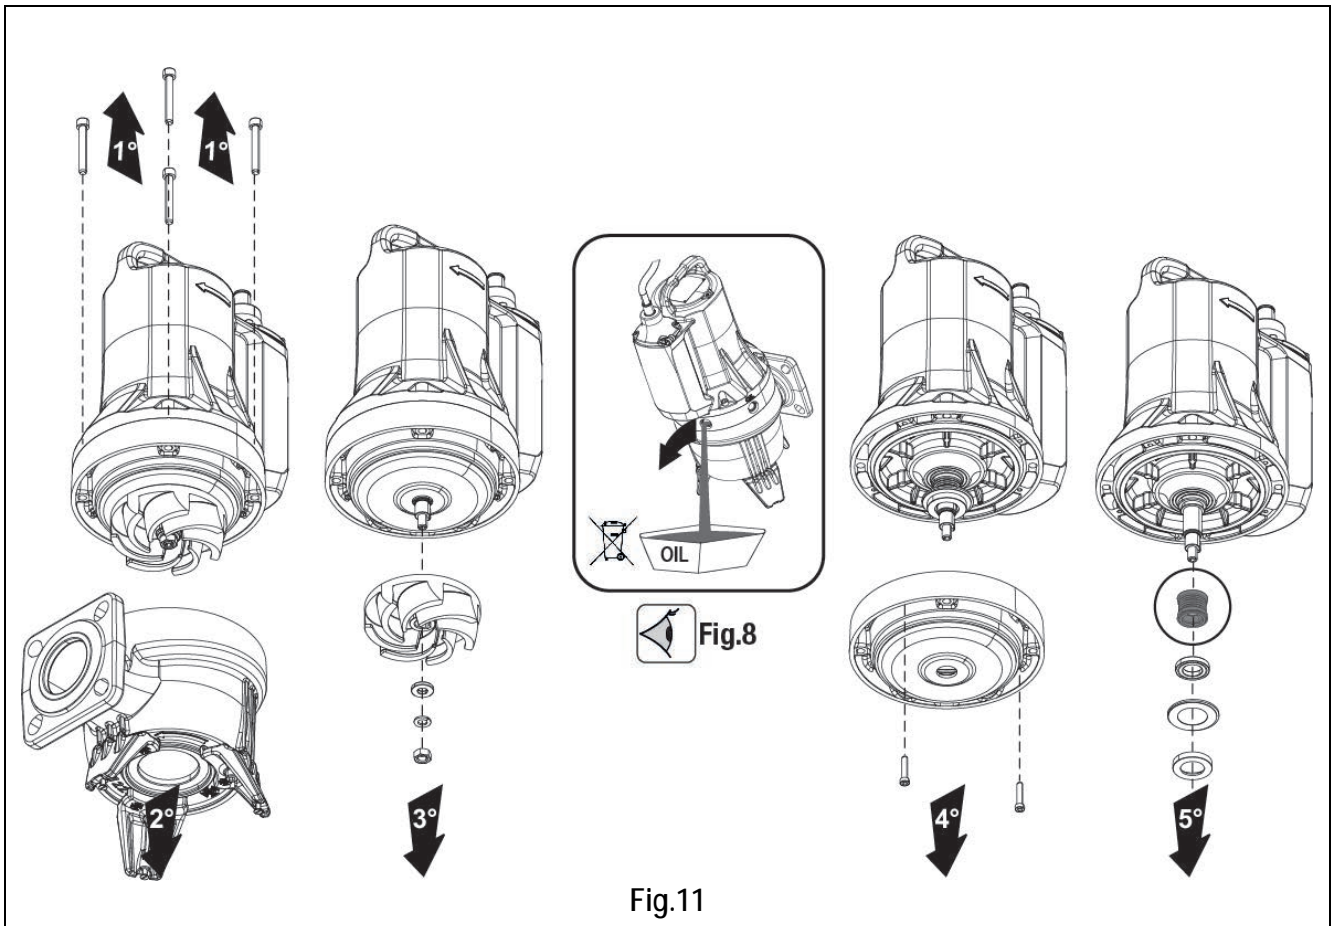

Fig.11
- Remplacement garniture (Fig.11)